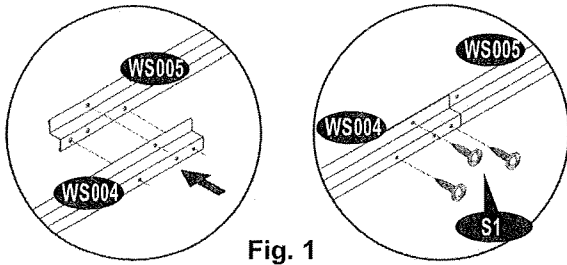

Fig. 1
4. Prepare and assemble wall middle support (WS004) and (WS005) with (S1) screws. See fig. 1 & 2. One set.